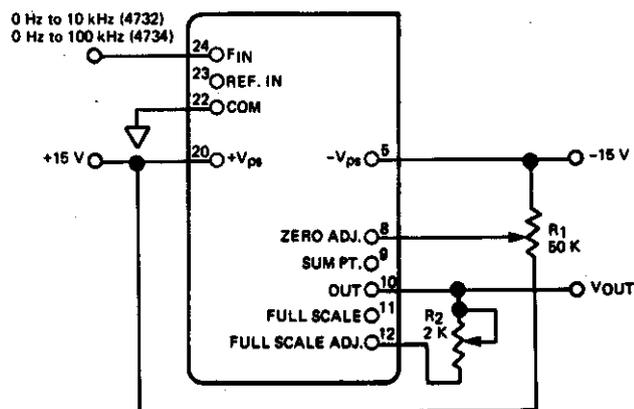

Figure 3. Zero and Full Scale Trim
Pin 11 can be used when accuracy to $\pm 0.1\%$ F.S. is needed with no external components. Pin 12 is usually used when greater accuracy is required using an external trim, see Figure 3. (Note: R₁ and R₂ should have low value temperature coefficients.)
1. Connect F_{in} pin to Common and adjust R₁ to provide 0.0000 V at V_{out}, see Figure 3.
3. Repeat (1) and (2) precise zero and Full Scale set.
Figure 12 compares these three different output voltage ranges for 0 kHz to 10 kHz (4732) and 0 kHz to 100 kHz (4734) F_{in} with the basic connections of Figure 3.